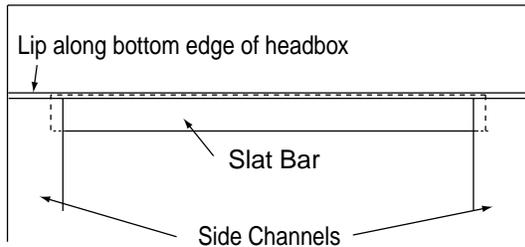
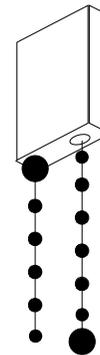

Figure 11
Figure 14
- ⑪ Adjust limit switches so the fabric can be completely drawn or retracted without the slat bar leading edge going beyond the plastic fabric guides located at the upper end of each side channel (see Fig. 11). Limit switches are pre-set, but some field adjustment may be necessary.
- ⑬ Re-attach cover to head box.
- ⑭ For bead-clutch operation, uncouple the chain at the connector so that the chain can be dropped through the two large holes in the bottom of the face cover that line up below the clutch. Hook cover top over top lip on top cover and swing down. Check alignment then snap on at end caps. If this is a pocket installation, re-attach bottom closure to pocket. Slide the length of the bottom cover into the slot on the head box, then push up and snap on at end caps. Attach at end caps using screws removed in step 3. For an electric or spring operated shade, proceed to step 15. For a bead clutch operated shade, the two ends of the bead chain can be threaded through the holes in the bead chain light seal and the light seal (removed in step 2) can be attached to the bottom of the cover box. Re-connect the chain and run the shade to the fully down position. Using a pair of pliers, attach one of the stop balls to the very top of the exposed front portion of the chain. CAUTION: Be careful not to distort the ball with the pliers. (These balls cannot be easily removed once put on.) This will be the down stop. Next, open the shade to the fully open position—the slat bar will be all the way up but still fully visible and not entered into the headbox (see Fig. 11). Attach the other stop ball to the very top part of the back section of the exposed chain. This is the up stop (see Fig. 14).